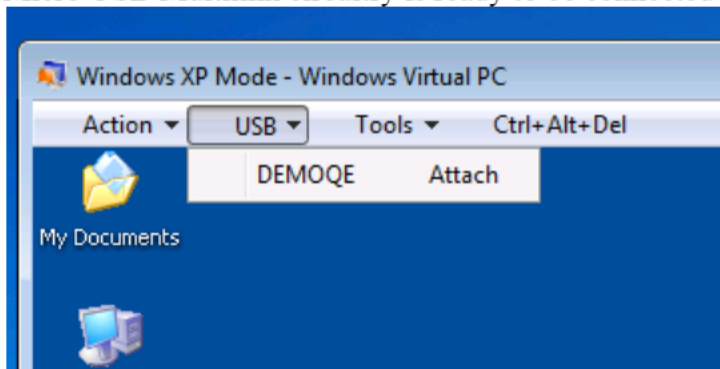

Figure 1.
After installation classic CodeWarrior product within Windows XP mode, you can attach your USB debug pod into the host PC’s USB port. Windows will inform you that it has detected a new USB device and will find the proper driver and install it, as a normal Windows XP machine would deal with P&E Micro USB pod when it’s being used first time. After driver being installed ok, you should attach the USB debug pod into Windows XP virtual machine. Figure 1 shows a DEMOQE board which has P&E Micro USB Multilink circuitry is ready to be connected – “Attach” to the Windows Virtual PC:
- 2> If your USB device is not detected by Windows XP, try un-plug it and re-plug it into a different USB port on your host PC. You have to see something like shown in Figure 1 to ensure that your USB debug pod is recognized properly within Windows XP virtual machine.